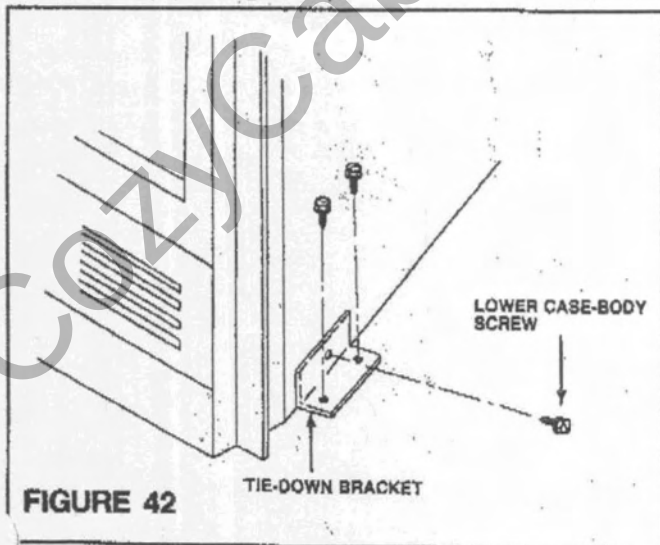

FIGURE 42
- Secure the fireplace to the floor of the mobile home to prevent shifting (see Figure 42).